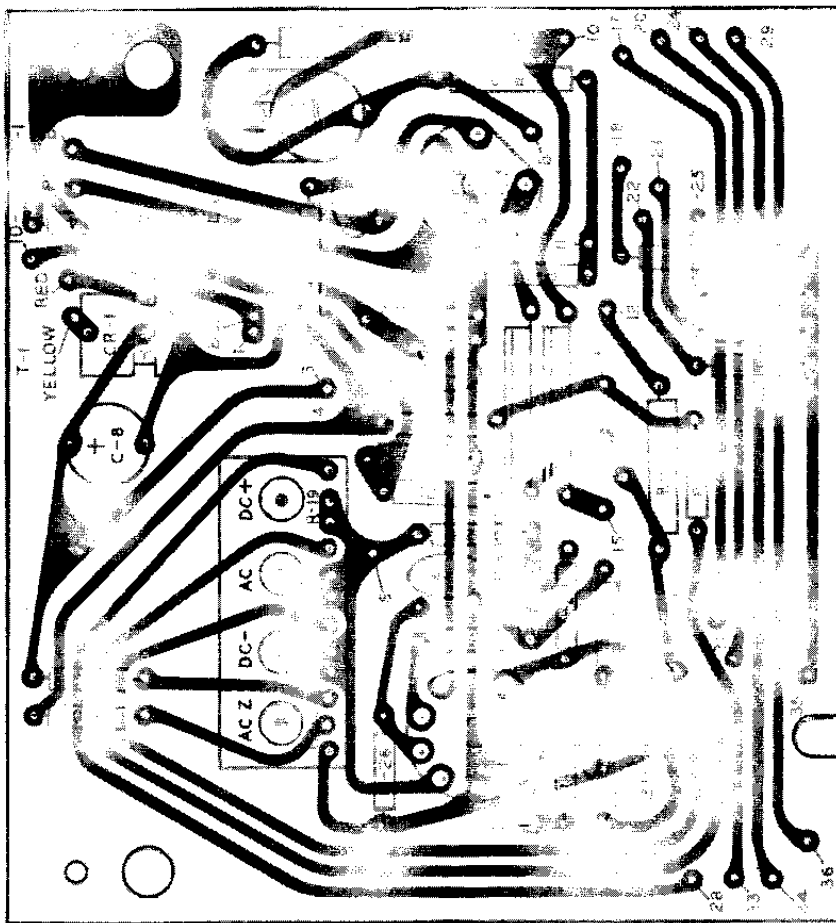

Figure 7. View of foil circuit of laminated board, showing components on opposite side
* DBM is the increment to be added algebraically to the dbm value read from Figure 7.